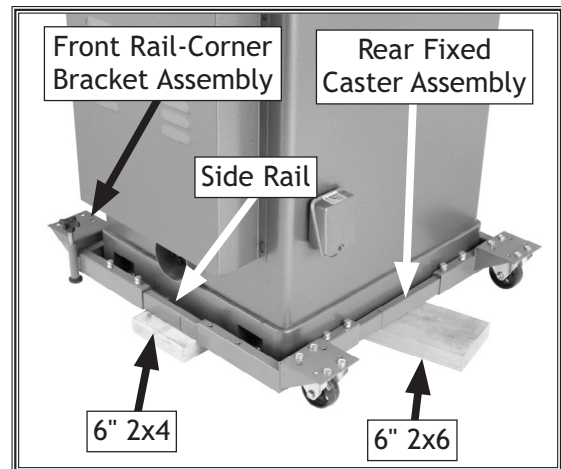

Figure 22. Rear fixed caster assembly inserted into front caster assembly.
18. While an assistant lifts up on the back of the machine, slide the rear fixed caster assembly onto the side rails of the front rail-corner bracket assembly so the rear assembly is close to the machine base, and the corner pads slide under the machine, as shown in **Figure 22**.
Tip: It may help to place a 6" 2x4 or 2x6 under the base temporarily if you need to adjust the width of the rear fixed caster assembly (see **Figure 22**). Remove the block after you finish adjustments.